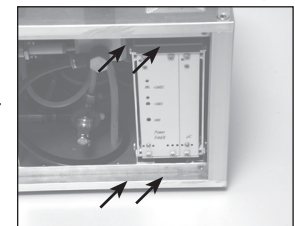

Fig. 2
3. Loosen the recessed-head screws on the 19" rack (see Fig. 2).